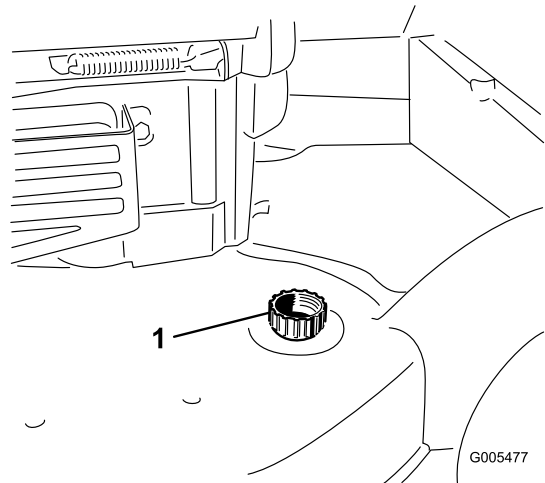

Figure 28
4. Attach a garden hose that is connected to a water supply to the washout port (Figure 28).